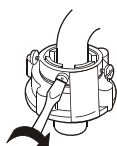

Figure 4
3. Dismantle the drain outlet protecting cover at the other side, (the way is the same as the drain bushing), then install the drain bushing, as indicated in Figure 4.
3.Fasten the four screws evenly. See to Figure 4.